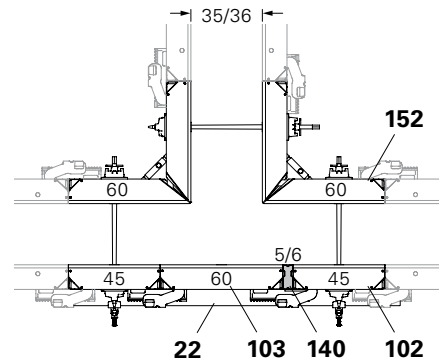

Fig. B5.06
- Wall thickness 35/36: Fig. B5.06